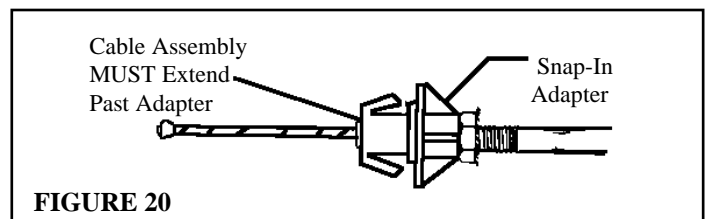

FIGURE 20
2. After the threads have been formed, screw the **Snap-In Adapter** on to the **Cable Assembly**. (**Figure 20**)